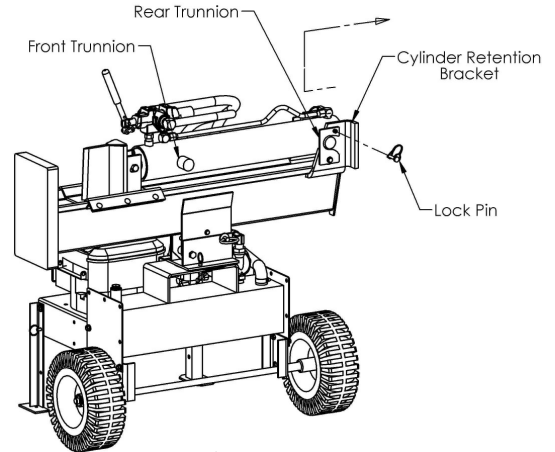

Figure 2
1. Remove lock pins from the cylinder retention clips and rotate clips down exposing the open slots on the cylinder retention bracket (reference Figure 2).
2. Slide the Cylinder forward until the rear trunnions clear the slots then lift the back side of the cylinder until the rear trunnions clear the cylinder retention bracket and slide cylinder back until the front cylinder trunnions slide into the open slots of the cylinder retention bracket (reference arrow in Figure 2).